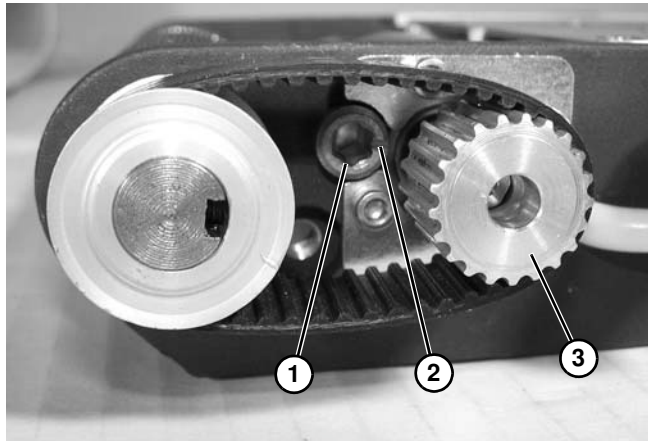
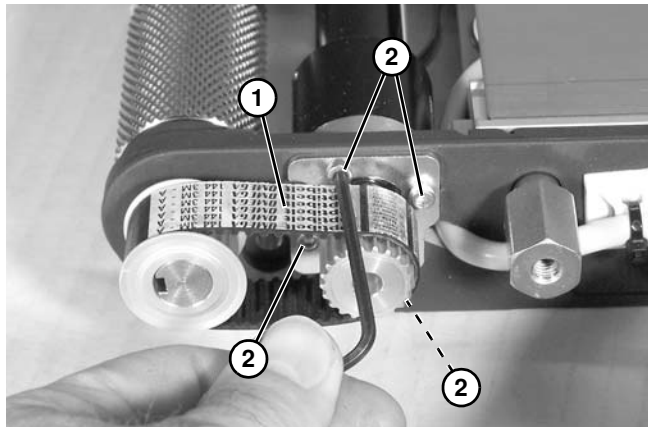

Figure 98
Figure 99
12. Tighten timing belt tension cam (Figure 98, item 1), making certain that pointer (Figure 98, item 2) on cam is pointing towards the motor drive spindle (Figure 98, item 3).
13. Rotate tension cam (Figure 98, item 1) to fully tension the timing belt (Figure 99, item 1). Tighten four clamp plate screws (Figure 99, item 2) to 15 in-lb (1.7 Nm) to secure position.